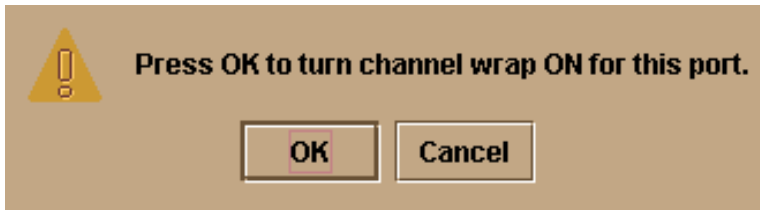

Figure 3–15: Channel Wrap On for Port n Dialog Box
5. Right-click the port to be tested, then select Channel Wrap from the pop-up menu. The Channel Wrap On for Port n (where n is the port number) dialog box displays (Figure 3–15).